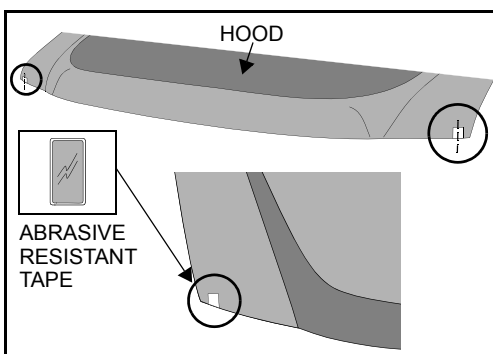

Figure 8.
8. Apply abrasive resistant tape to the hood lip in the previously cleaned areas, ensuring the tape is centrally positioned with the previously marked outer hole positions on the hood. Fold the tape over the front lip of the hood, length ways, so that approximately half of each strip is adhered to the outside and half to the underside of the hood. See figure 8.